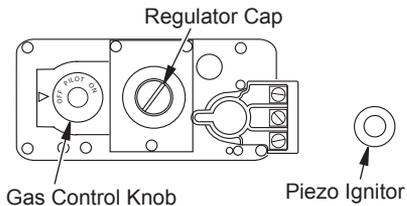

Figure 33 - Control Valve Millivolt
4. Push in gas control knob slightly and turn clockwise to OFF (see Figure 33).
5. Wait five (5) minutes to clear out any gas. Then smell for gas, including near the floor. If you smell gas, STOP! Follow "B" in the safety information above. If you don't smell gas go to the next step.
8. Push in gas control knob all the way and hold. Immediately light the pilot by repeatedly pressing the piezo ignitor until a flame appears. Continue to hold for about one (1) minute after the pilot is lit. Release gas control knob and it will pop up. Pilot should remain lit. If it goes out, repeat steps 5 through 8.